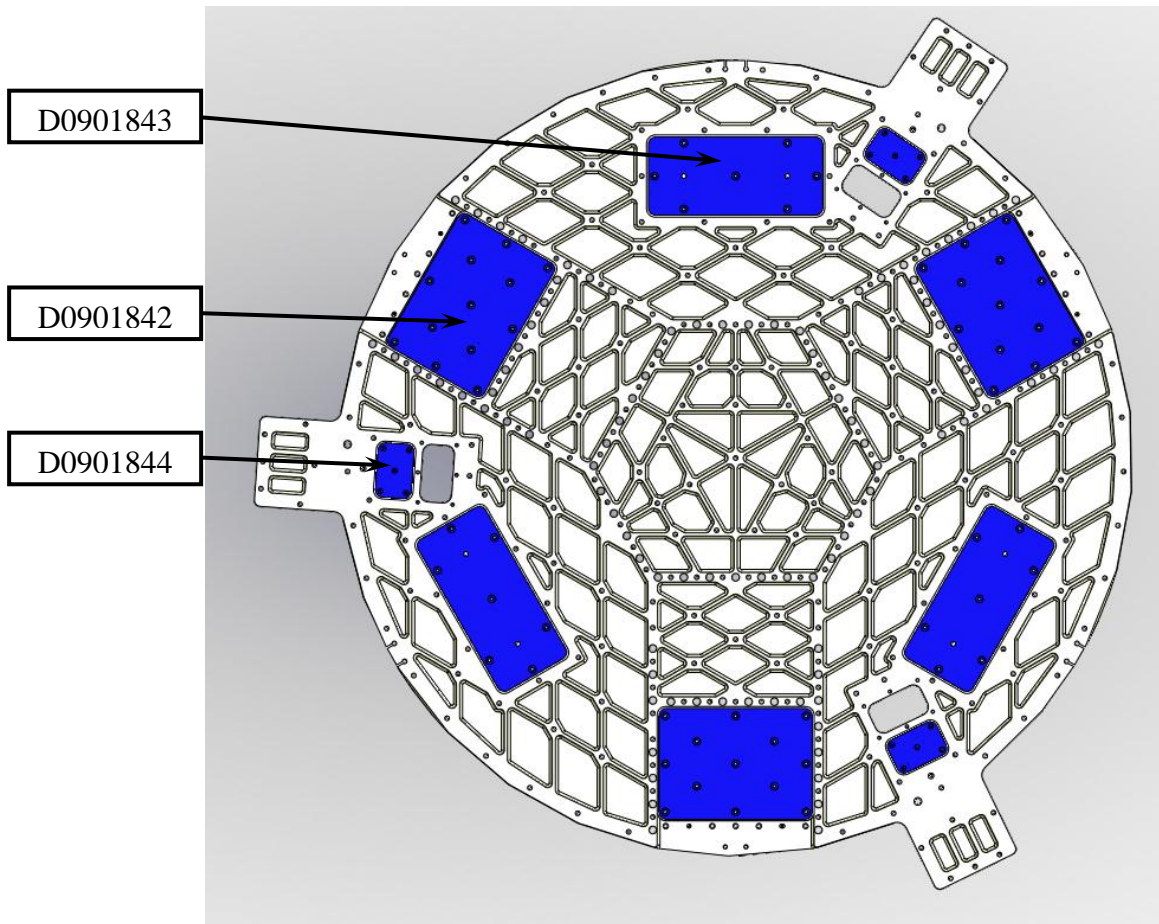

Figure 13: D0901516 Solid Optical Table (ribs side up) assembled with all its covers highlighted in blue (D0901842, D0901843 & D0901844)
(60) 3/8 Vented Washers - UCC-WFV-38
- Bolt D0901842 & D0901843 to D0901516 Solid Optical Table (with the ribs side still facing up, see Figure 13).
(15) 1/4 Vented Washers - UCC-WFV-25
- Bolt D0901844 to D0901516 Solid Optical Table (with the ribs side still facing up, see Figure 13).